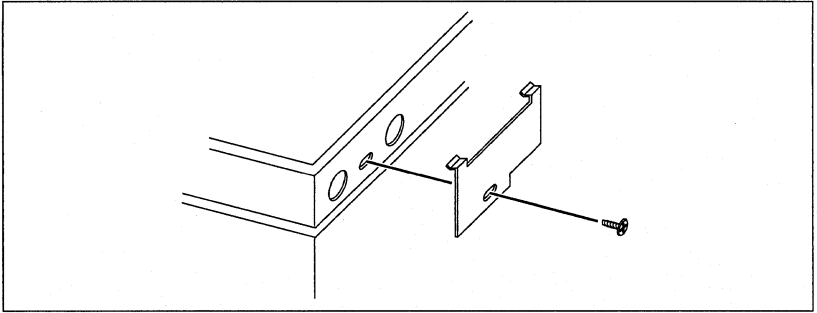

fig. A-18
3. Remove the screw securing the system fan on the side of the PAC. Insert the mounting bracket and secure it in place with this fan screw (fig. A-18).